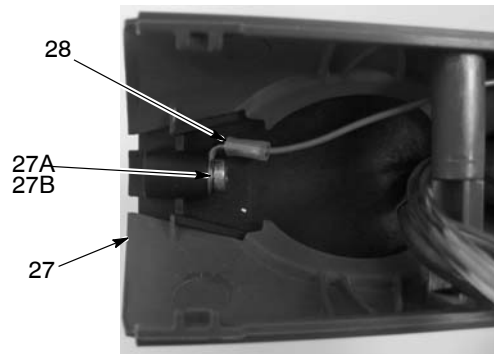

Figure 7 Installing Ground Wire
7. See Figure 7. Bend the cable ground terminal (28) 90 degrees and connect it to the inside boss of the ground pad (27) with the lockwasher and screw (27A, 27B) included with the upgrade kit.